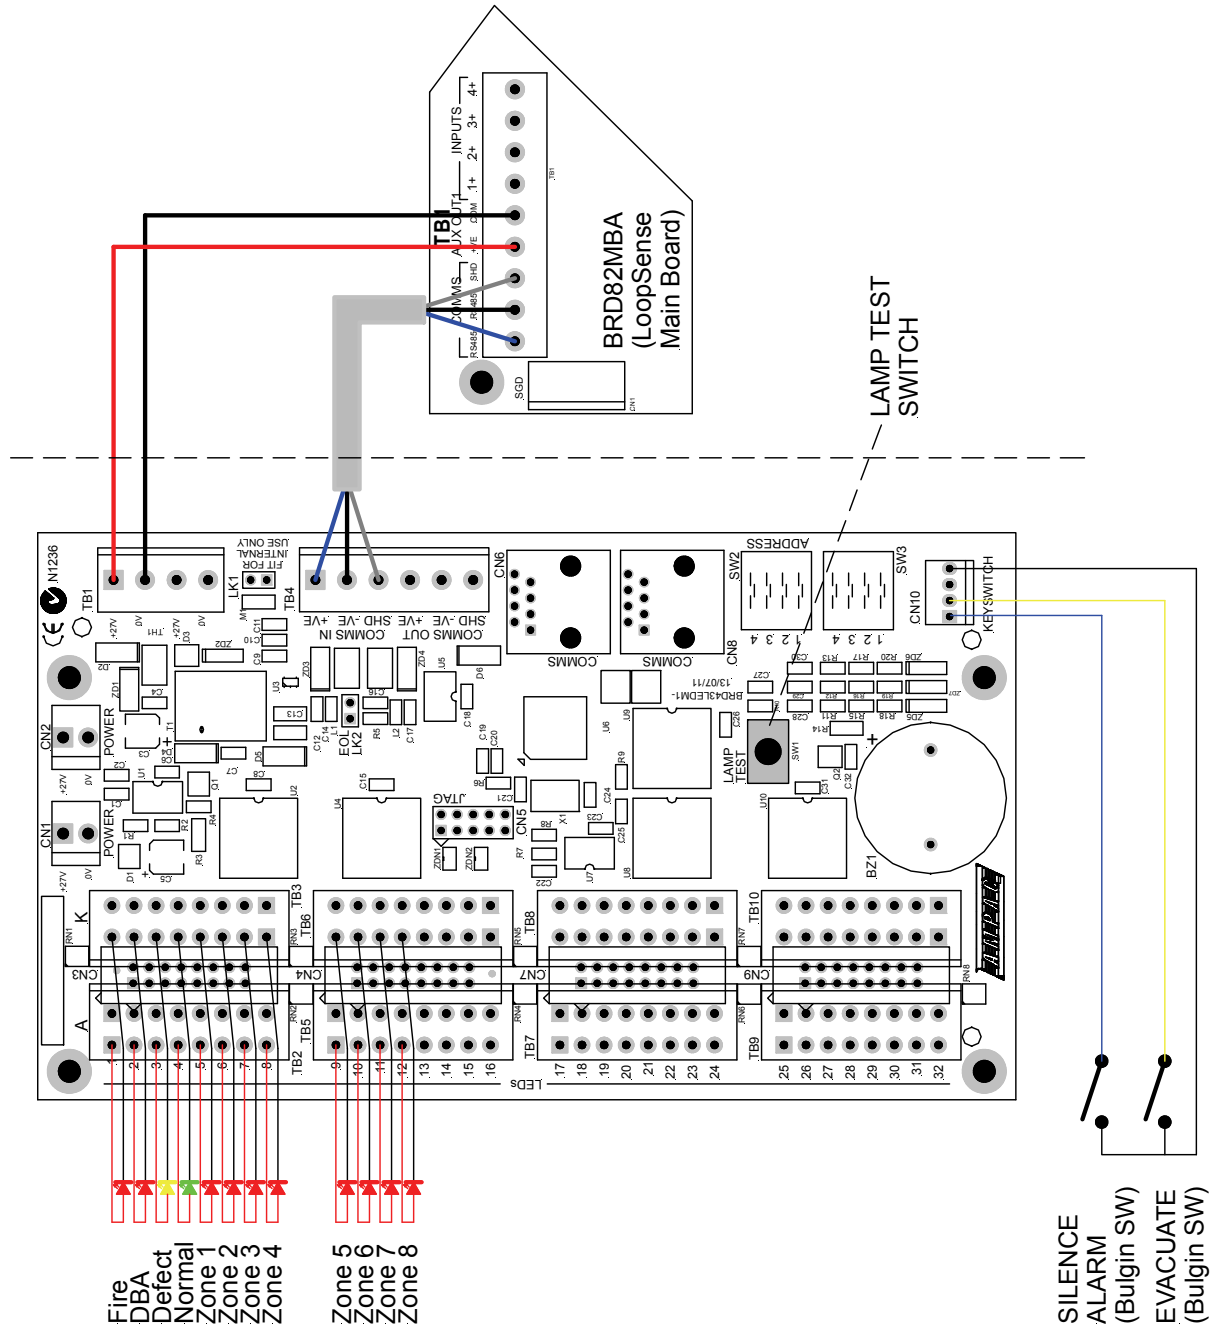

Figure 2: BRD43LEDM General Wiring Diagram
7. Fit the 4 Default LED's to the Poly Carbonate Mimic Panel, Fire (Red), DBA (Red), Defect (Amber) and Normal (Green) and terminate the leads to the BRD43LEDM (see Figure 2)
8. Fit the Zone LED's to the Poly Carbonate Mimic Panel and terminate the leads to the BRD43LEDM. Noting Zone positions on the MAP. (see Figure 2)
10. Connect Power and Comms wiring from the Main FACP to the BRD43LEDM (see Figure 2)
11. Ensure Panel has been correctly programmed using LoopMaster (see Document No MAN2999) and the Address Switch is Set as per the Panel Configuration (See Figure 2)